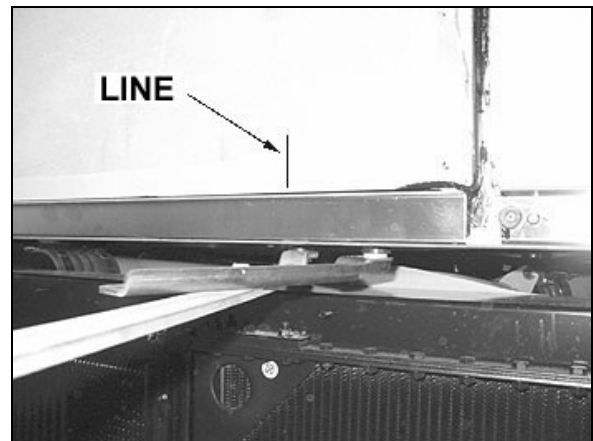
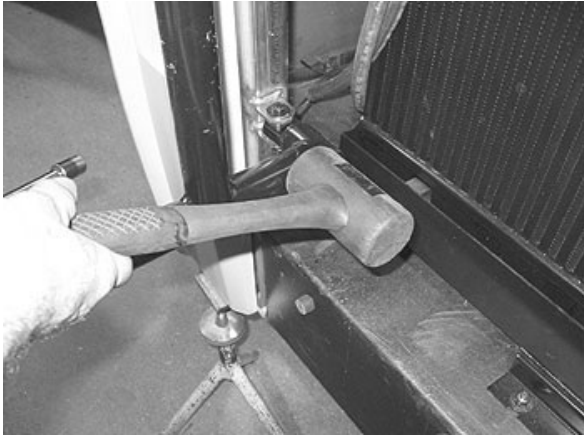

FIGURE 83: REFERENCE LINE
FIGURE 84: PANTOGRAPH ARM ADJUSTMENT
2. Using a rubber mallet, adjust the lower part of pantograph arm in order to get  $4 \pm 1$  mm between lateral panel and engine door (Refer to Figure 83 and Figure 84).